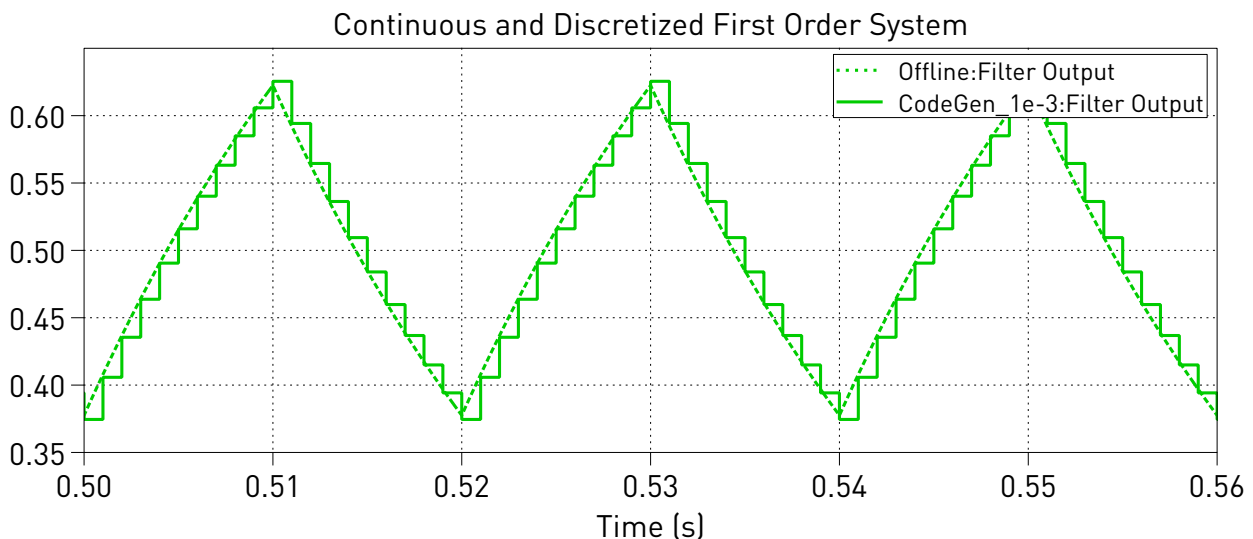

Figure 11: Comparison between “Offline” and “CodeGen” results
- 6 Run the simulation and hold all new Scope traces as “CodeGen_1e-3”. Notice the Scope within the Subsystem did not update. Open the Scope on the top-level schematic and zoom into the waveforms until the impact of system discretization is apparent. Figure 11 shows the output from the simulation.